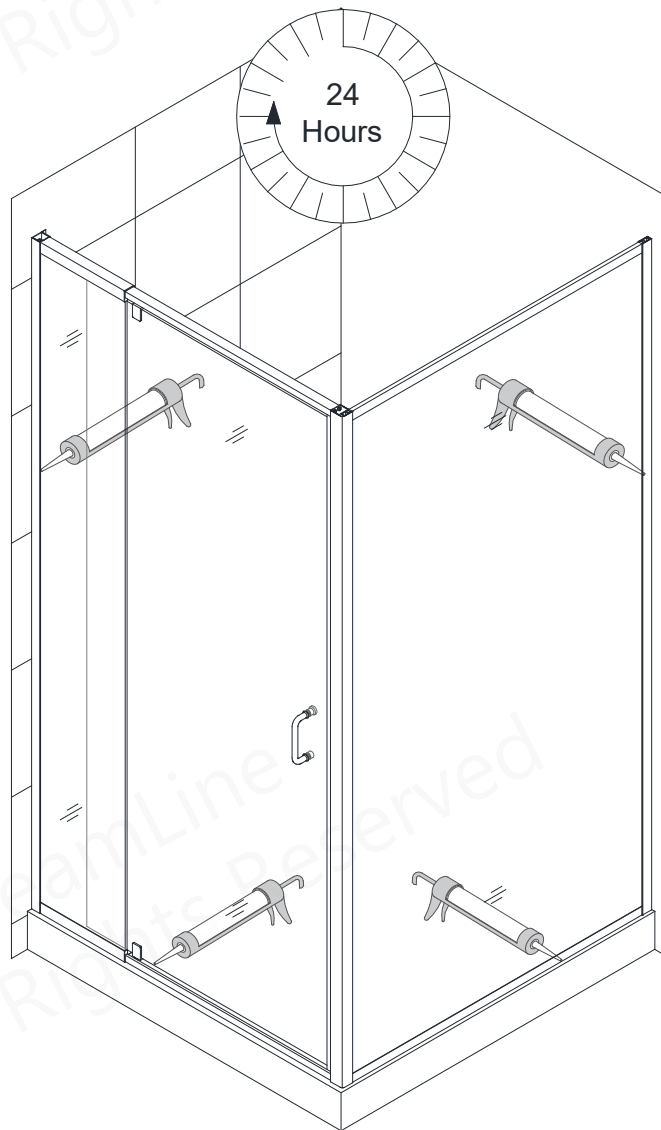

**Fig 12**
**12.** Attach the **Vinyl Seal with Flexible Fin (#07)** to the vertical edge of the Stationary panel glass. Measure and cut the **Bottom Sweep vinyl (#08)** to cover the bottom edge of the door from the pivot to both sides of the Glass door. Attach both pieces of the **Bottom Sweep vinyl** to the bottom edge of the Glass door. (**Fig 12**)